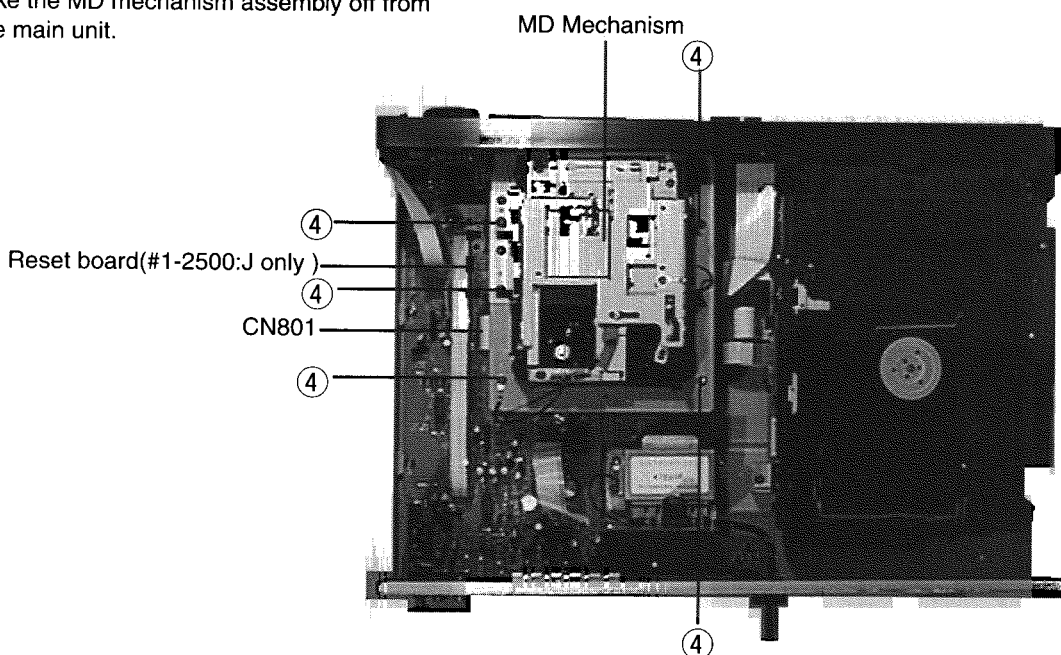

Fig. 4
■ Removing the MD Mechanism Assembly (See Fig. 4)
1. Remove the four screws ④ retaining the MD mechanism assembly.